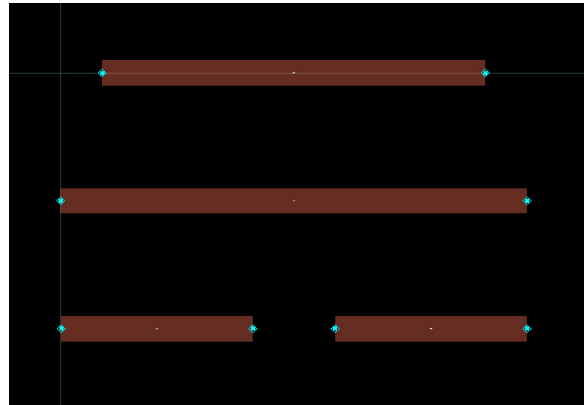

Figure 4: Board Layout for TRL
- To send the design to E-shop for fabrication, you need to generate the board layout by clicking "*Layout -> Generate/Update Layout...*". Now your layout should look like Figure 4.